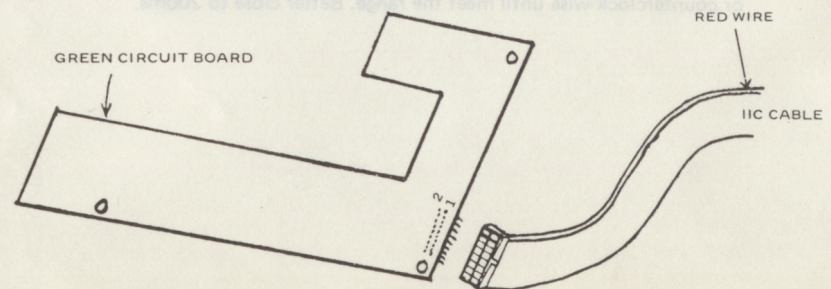

FIGURE 2
9. Be make sure that the red/blue first wire of the ribbon cable must be located as figure 2 shown.